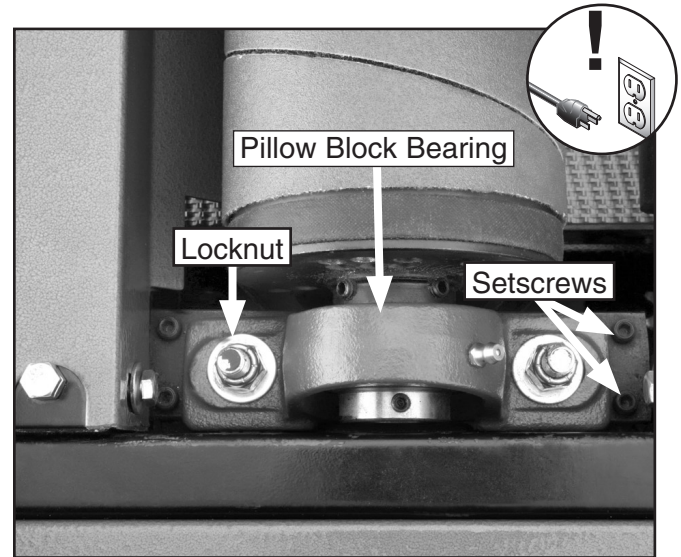

Figure 29. Pillow block bearing adjustments.
3. Loosen the lock nuts (see **Figure 29**) on the drum pillow block bearing.
1. Loosen the lock nuts (see **Figure 29**) on one of the pillow block bearings that requires adjustment.
2. Rotate the setscrews $\frac{1}{8}$ of a turn clockwise to raise the pillow block bearings (see **Figure 29**).